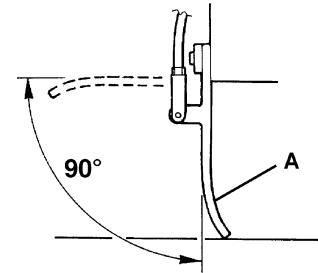

Figure 15
11. Press the front skirt lifting pedal (5) and check that the front skirt (A, Fig. 15) turns upward for about 90° (as shown in the figure); then release the pedal and check that the skirt does not remain in an intermediate position but returns to its initial position. If necessary, for the front skirt control cable adjustment or replacement, refer to the Service Manual.